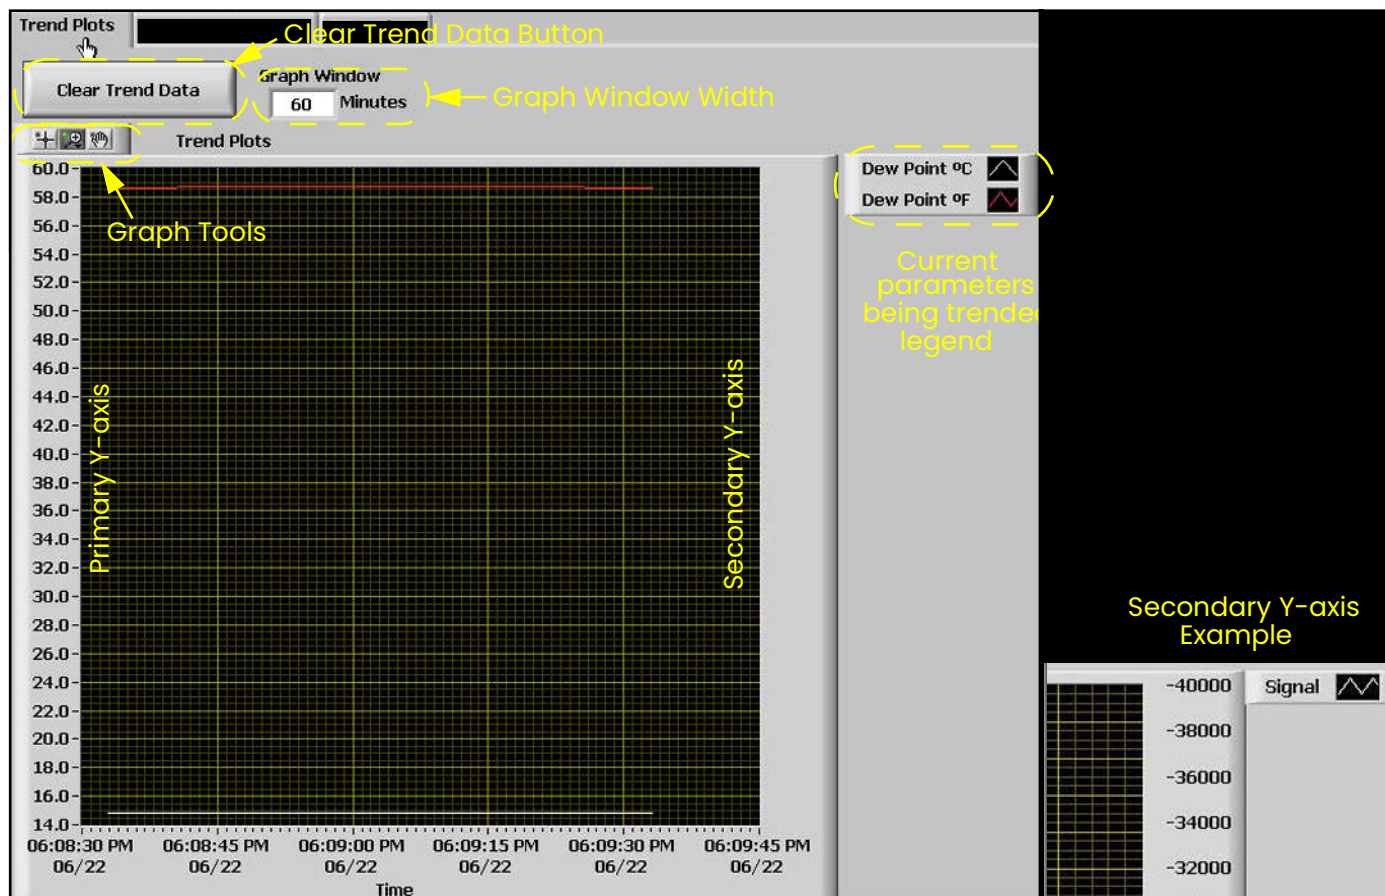

Figure 73: Using Trend Plots
1. Trend Plots is a powerful graphing feature in **AuroraView**. You can graph many parameters at the same time (see Figure 73 below).